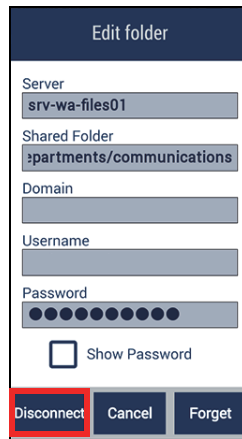

Figure 4-4 Disconnect a mounted folder
2. Tap **Disconnect** in the **Edit Folder** dialog box (see Figure 4-4 on page 116).